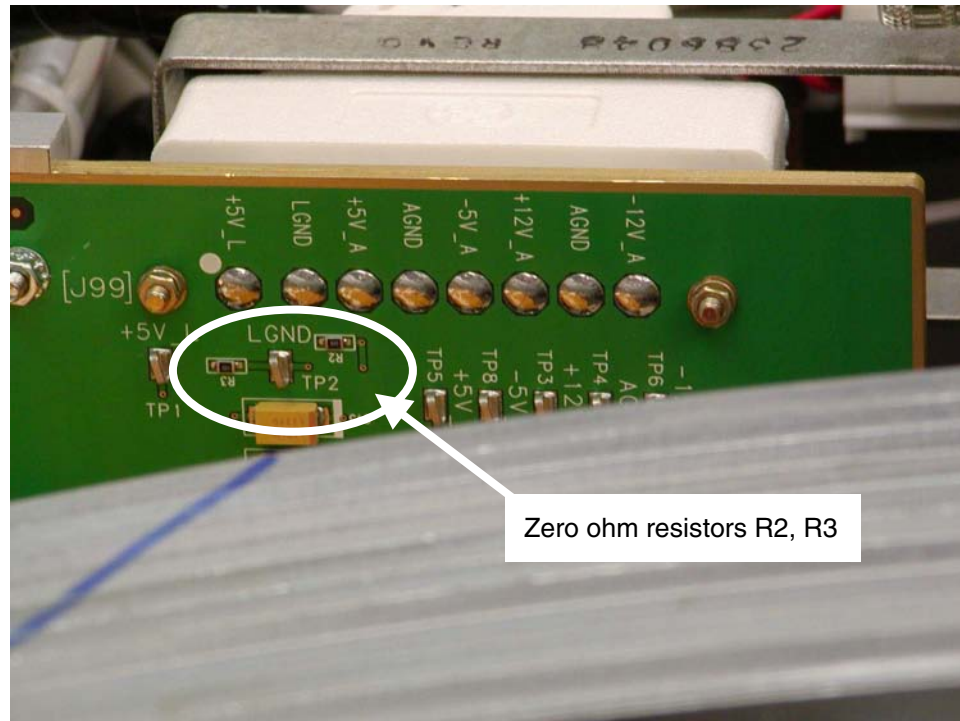

Figure 9 DAS Center Backplane behind 180 weight stack
9. Perform a visual inspection of the 0-ohm resistors R2, R3. See Figure 9 DAS Center Backplane behind 180 weight stack.